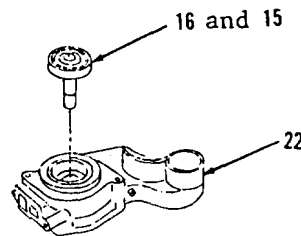

Figure 3-190.
6. Install items 16 and 15 as an assembly in housing (22, Figure 3-190).